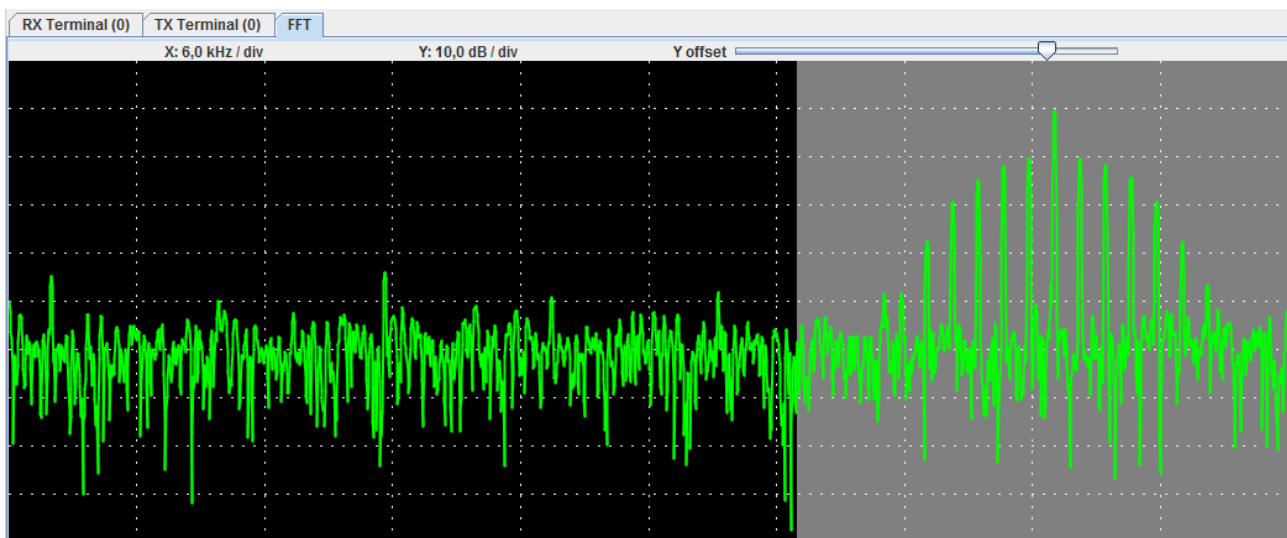

Figure 5-6 FFT centre frequency offset
- The user can double click on the signal in the FFT tab: this will re-tune the receiver and move the grey band on the signal (see Figure 5-6 for details).